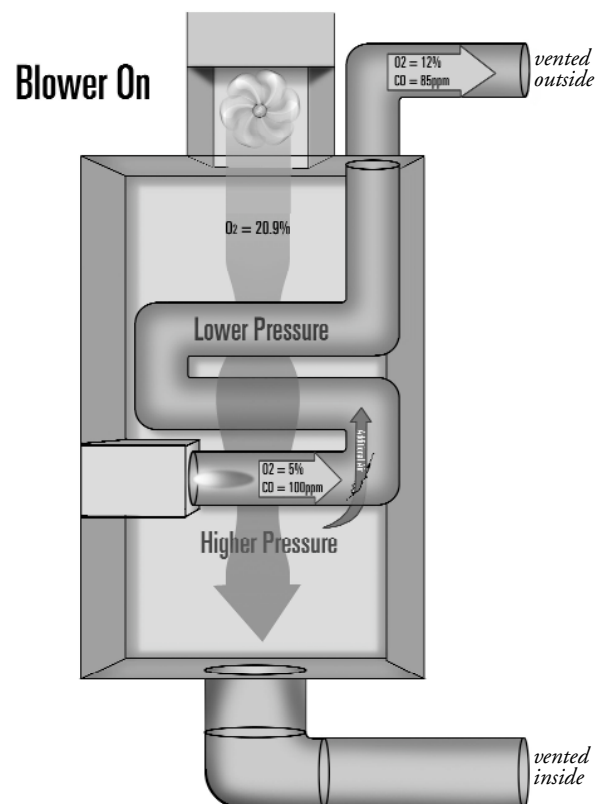

figure 6
- After the blower starts the pressure on the primary side will be higher (See figure 6)